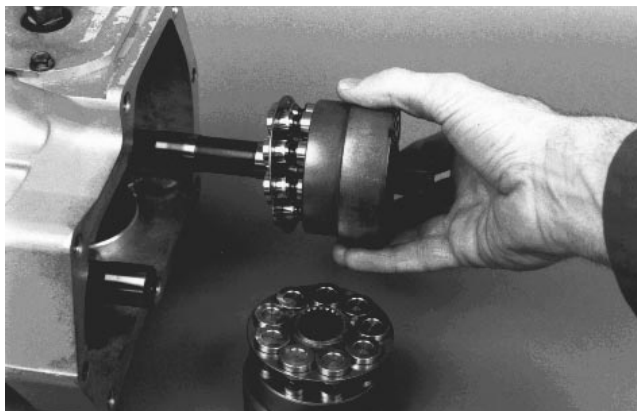

Figure 70
15. Lay the transmission on its side and install cylinder block kits into the housing (Fig. 70).